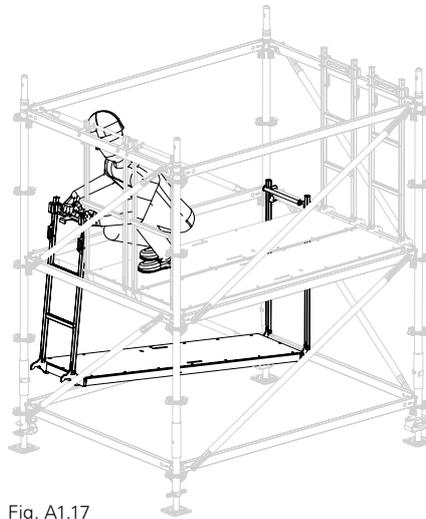

Fig. A1.17
1. 6. Move last deck from above - turned 180° - in the same way as Points 1 - 3. (Fig. A1.17 + A1.18 + A1.19)